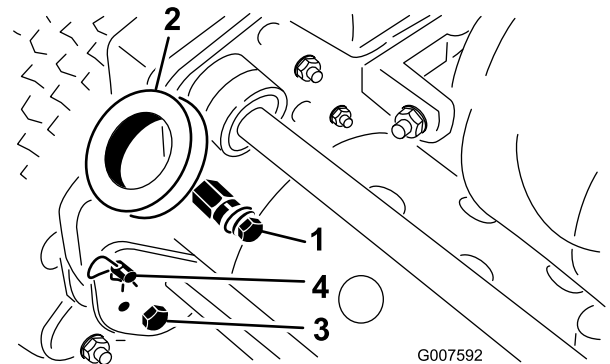

Figure 2
1. Remove the bolt, washer, and lockwasher from the mounting pin on each side of the mower (Figure 2).
- Remove the bolts and locknuts securing the bottom of the handle arms to each side of the mower (Figure 2).
- Remove the hairpin cotters and ring pins securing the handle arms to the rear of the frame (Figure 2).
- Insert the handle ends thru the holes in the handle arms and align the holes with the mounting pins (Figure 2).
- Remove the hairpin cotters from the ring pins on each side of the mower (Figure 2).
- While supporting the handle, remove the ring pins from each side and raise or lower the handle to the desired operating position (Figure 2).